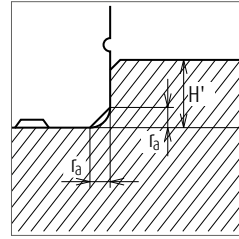

Fig. 10 Shoulder for the rail datum face
(1) Shoulder height of the mounting surface of the machine base and corner radius r
- Fig. 10 and 11, show shoulder height of the mounting surface of the machine base and the size of corner radius. These figures are relevant when the linear guide is pressed to the shoulder of the machine base or table (the raised section from where the mounting surface begins), and horizontally secured to it. Recommended sizes are shown in the clause of "Shoulder height and corner radius r " of each series introduction.
(2) Tightening torque of the bolt